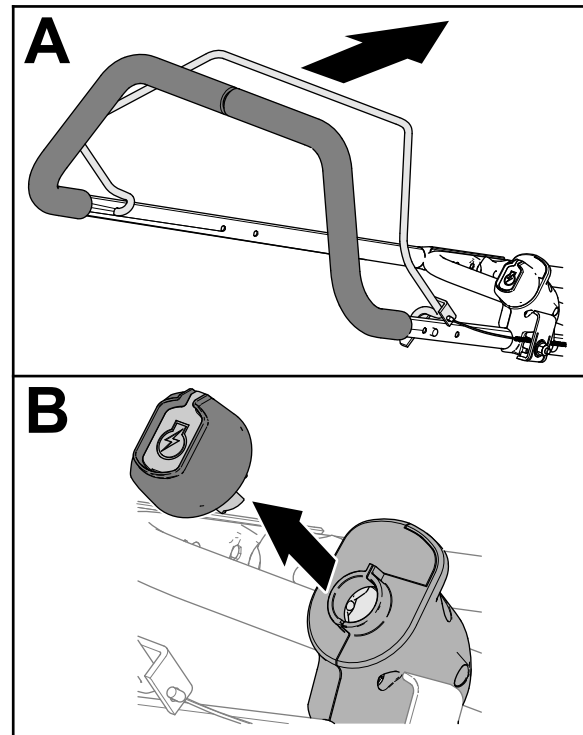

Figure 17
2. Grasp the handlebar and operator presence bail and close the bail against the handlebar (Figure 17).
1. Release the operator presence bail (Figure 17).